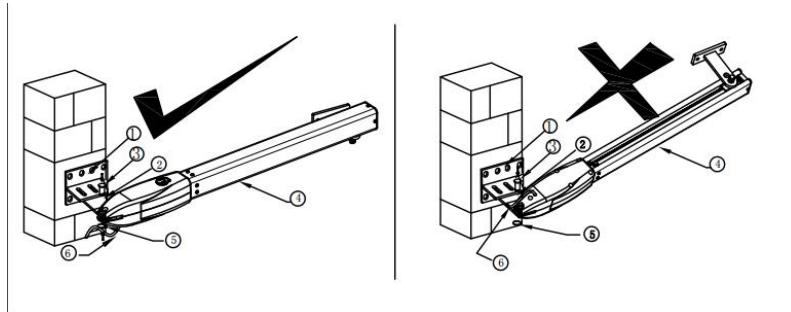

Figure 8
**Figure 8 left, Power Cable And Manual Override Release Placed Correctly**
**Figure 8 right, Power Cable And Manual Override Release Placed Incorrectly**
**Notice : Incorrect Installation, Figure 8 right:**
Cable must not be installed above the motor arm. It may pinch and strip the cable and causes electric shock. Also the manual override release must be located face to the view of the public. Follow correct installation as shown in Figure 8 left.